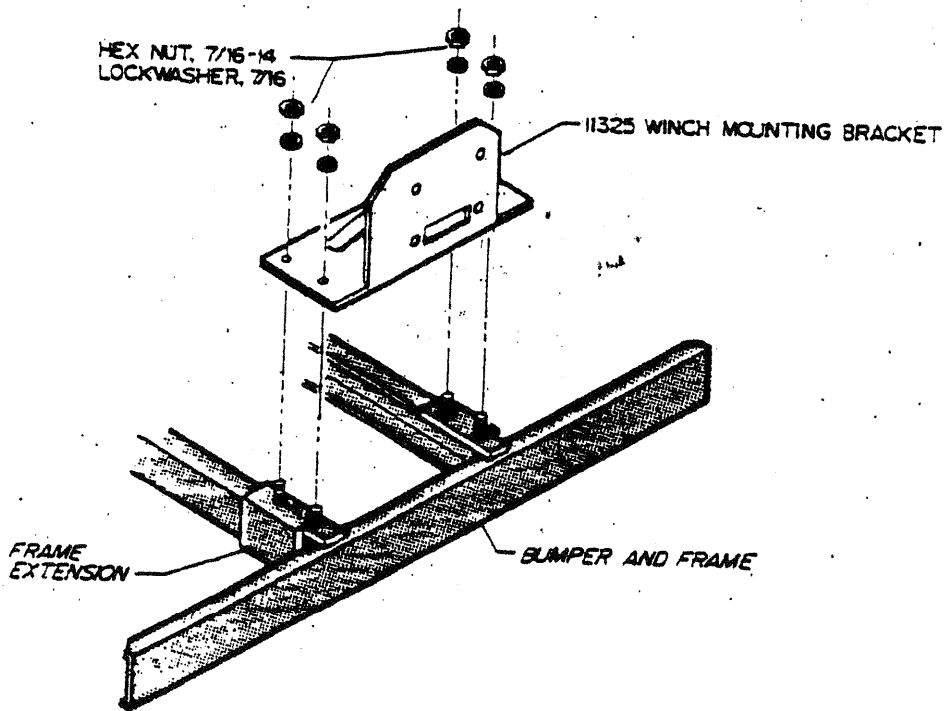

Figure 2
- Place winch mounting bracket on bolts protruding from frame extensions and secure with 7/16"-14 hex nuts and lock washers. Torque to 50 lb/ft. See Figure 2.